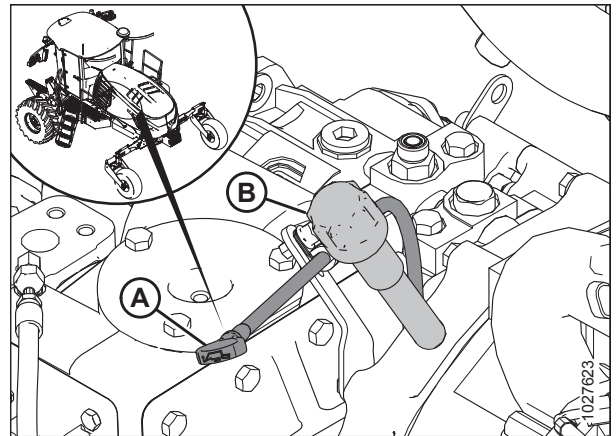

Figure 4.15: Gearbox Lubricant Dipstick
2. If the lubricant level is at or below ADD mark (A) on the dipstick, remove the breather cap ([B] in Figure 4.15, page 47) and add gearbox lubricant. Insert the dipstick again to check the lubricant level. Repeat this process until the lubricant level is between ADD mark (A) and FULL mark (B) on the dipstick.